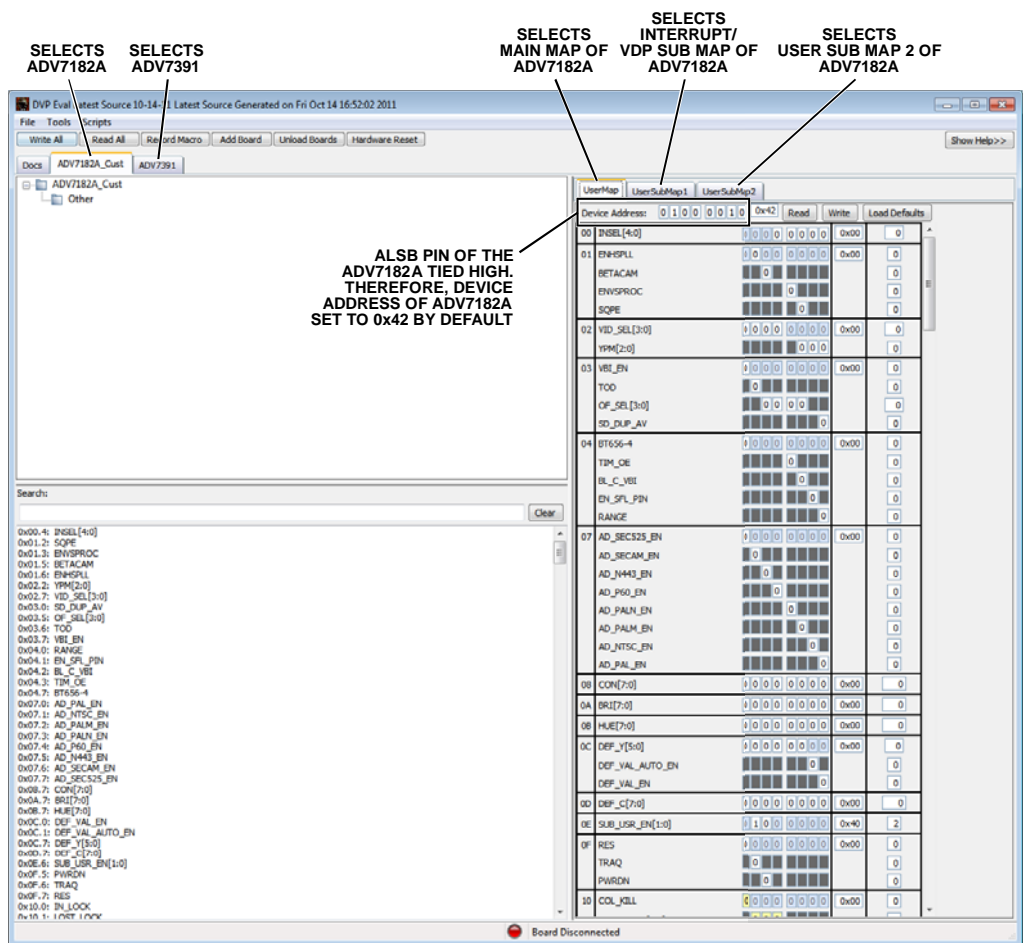

Figure 7. DVP Eval Software After Connecting the ADV7182A Evaluation Board
4. Click the **Load** button. A window similar to Figure 7 appears.